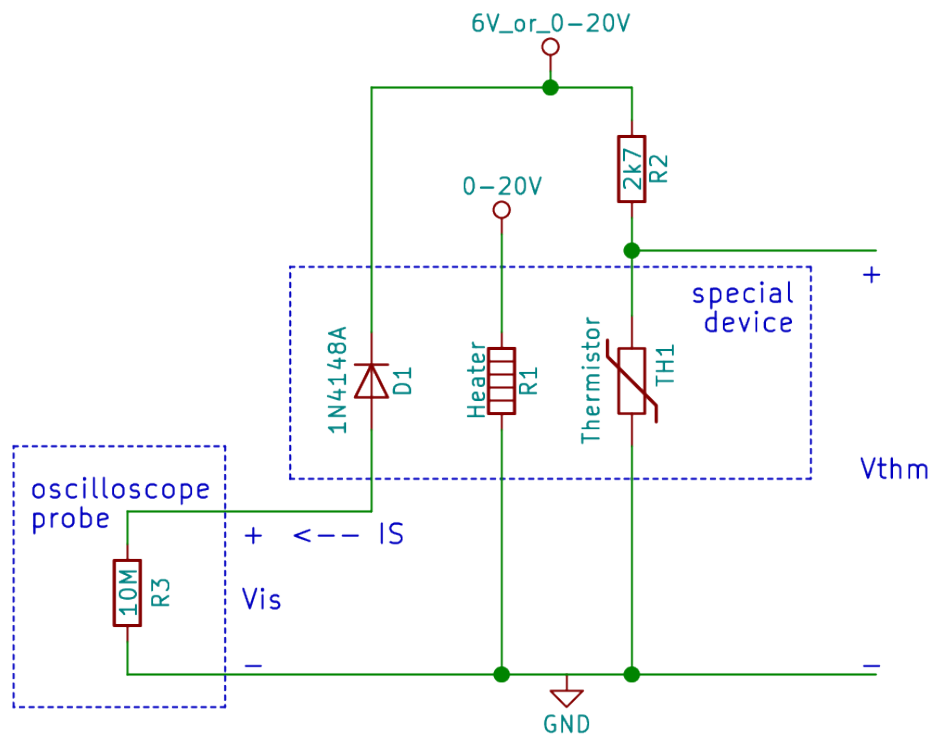

Figure 1 - Special device equivalent schematic
2. Connect the  $+6V$  power supply terminal to the node labeled `6V_or_0-20V` in **Figure 1**.
3. Connect the +20 V power supply terminal to the node labeled 0–20V in **Figure 1**.
4. Connect the COM terminal of the power supply to the node labeled GND in **Figure 1**.
- This makes it appear that channel 1 is connected across *nothing*, which is not necessarily intuitive. The currents we will be measuring will start at a few nA, a million times below the range of cheap ammeters (the nice multimeters can measure this, but we don't have enough of them for every lab station). With this connection scheme, the saturation current  $I_S$  is forced to go through the 10 M $\Omega$  input resistance of the oscilloscope+probe combination. It is operating as a *current shunt*. The voltage measured across this resistance by the scope is proportional to the current through it via Ohms "Law". This current  $I_S$  is shown in **Figure 1**.